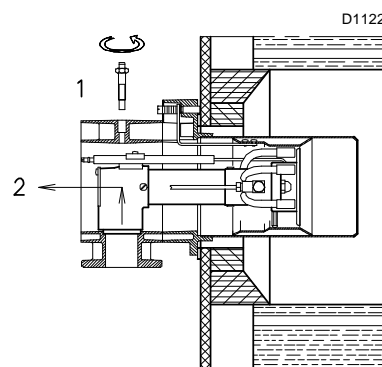

Fig. 14
- Remove the screw 1) and the internal part 2)(Fig. 14).